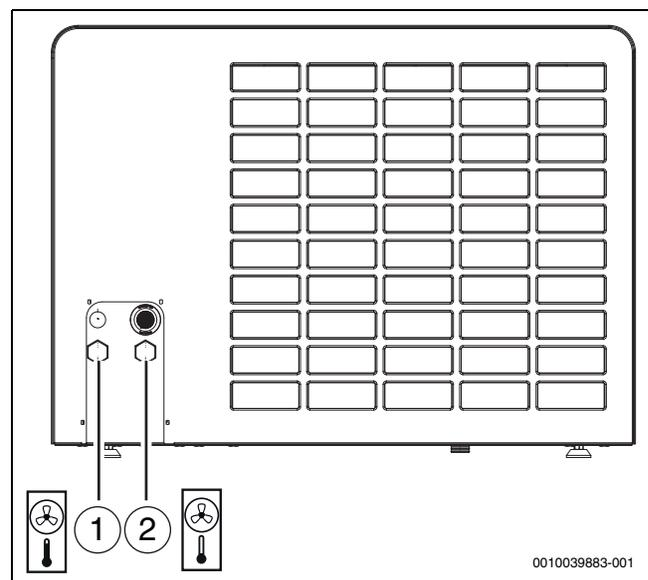

Fig. 28 Heat transfer medium pipe connections; description applies to all sizes
- ▶ Connect the flow line to the indoor unit to the heat transfer medium outlet (→ [1], Figure 28).
- ▶ Connect the return line from the indoor unit to the heat transfer medium inlet (→ [2], Figure 28).